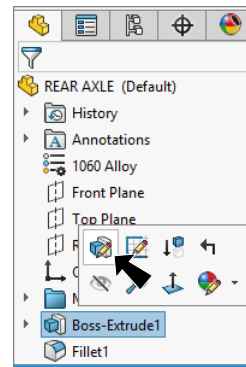

Fig. 13
Step 1. Click **Boss-Extrude1** in the Feature Manager and click **Edit Feature** in the context toolbar, Fig. 13.